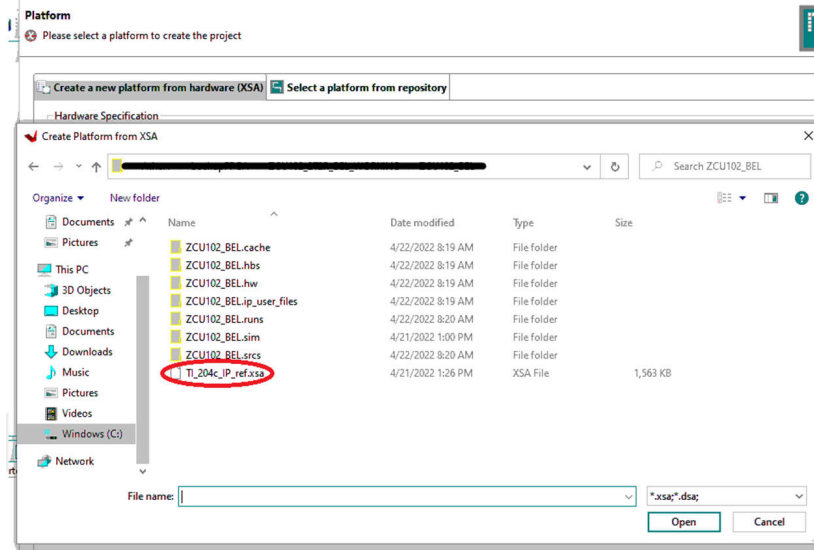

Figure 6-4. Selecting the Platform
- Browse and select the .XSA file from the FPGA folder shared along with this document (see Figure 6-4).